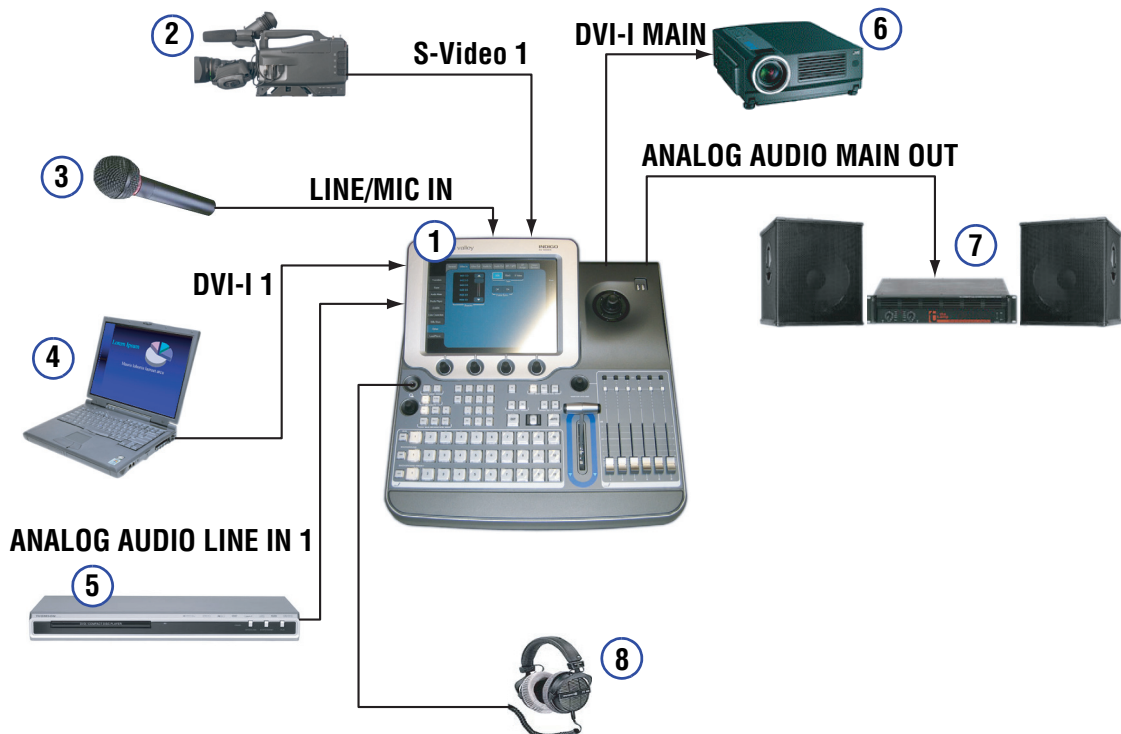

Figure 34. Connections for the small presentation setup
1. Connect the devices as shown in Figure 34 on page 69.